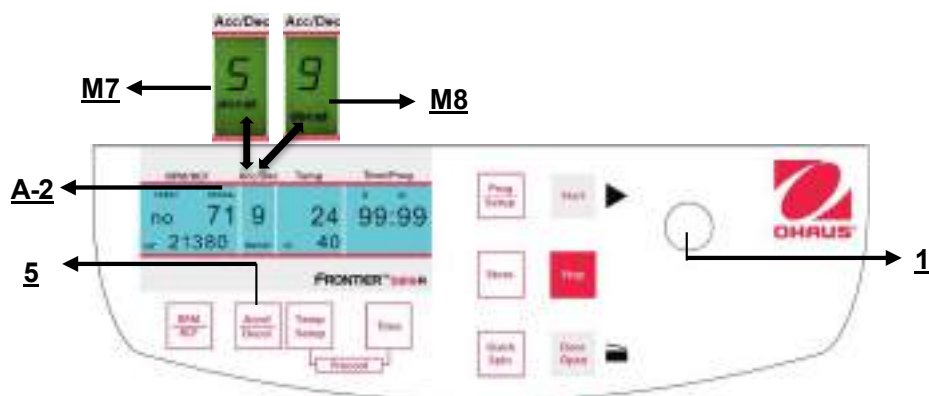

Figure. 18
This function is activated through the key **"Accel/Decel"** (5) (refer to figure 18).